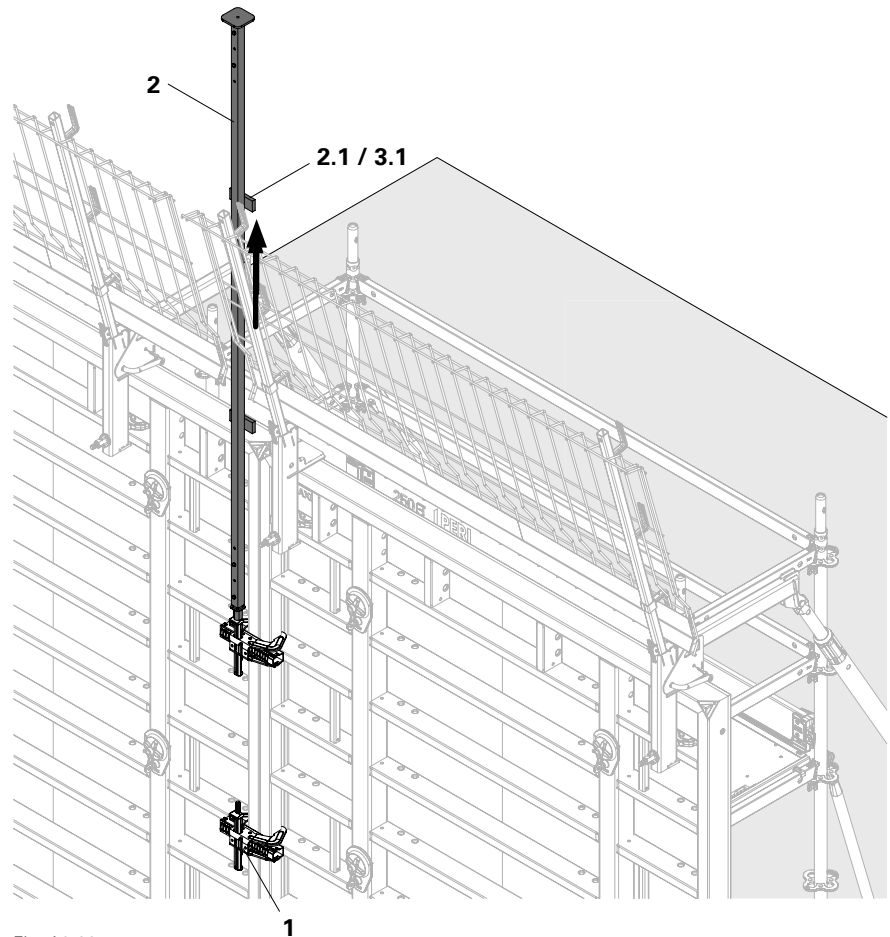

Fig. A3.08
1. Screw control rod (2) onto element connection lock (1).
2. Unlock element connection lock (1) using a hammer on bracket (2.1/3.1).
3. Open the element connection lock (1) and remove.
4. Unscrew element connection lock (1) from the control rod (2).
- (Fig. A3.08)